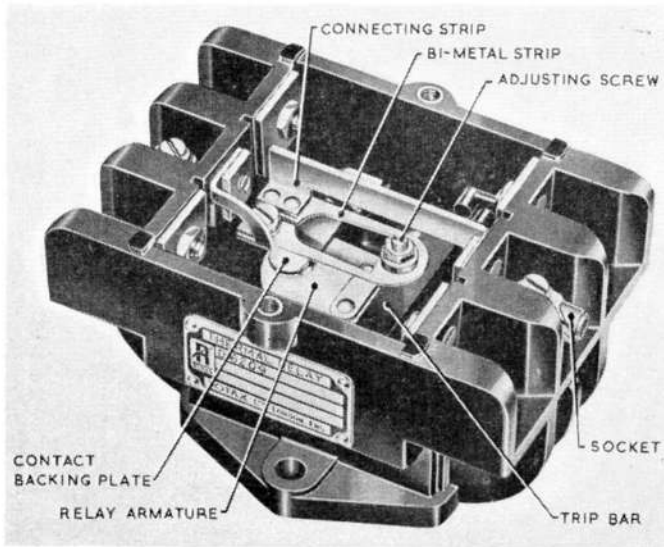

Fig. 1. Type 2A, No. 1 thermal switch, with cover removed
2. The Type D6209 thermal switch (fig. 1) is similar in construction to those described in A.P.4343, Vol. 1, Sect. 11, Chap. 6. Operating from a single line d.c. supply, the unit has only one central connection strip and